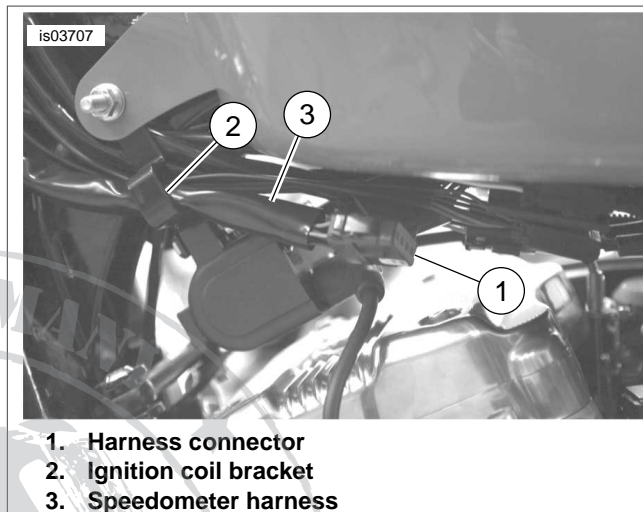

Figure 1. Disconnect Speedometer Harness
2. See Figure 1. Trace the speedometer wiring harness from the speedometer to the fuel tank tunnel and locate the connector approximately 4-6 inches in front of the fuel supply valve. Disconnect the speedometer harness male connector (1) from the female connector.
3. Gently pull the harness (3) and connector (1) through the rectangular ignition coil bracket (2).
22. See Figure 1. Route speedometer/tachometer harness connector (1) in front of triple fork, then down and toward bottom of fuel tank. Continue to route through rectangular ignition coil bracket and connect to main harness. Rest the speedometer/tachometer assembly on handlebar/tank area for now.